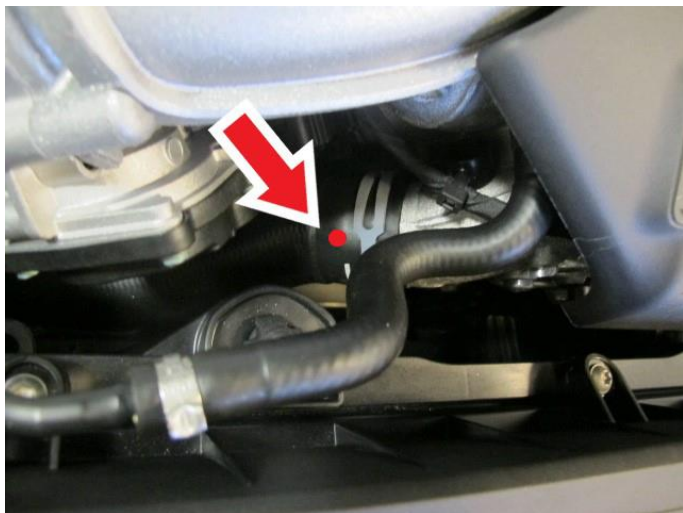

Figure 8
- 9) Apply a red paint completion mark on the radiator top hose (Figure 8)
Red paint completion mark on the radiator top hose confirms the initial fan operation check and the software update were both conducted (Figure 8)